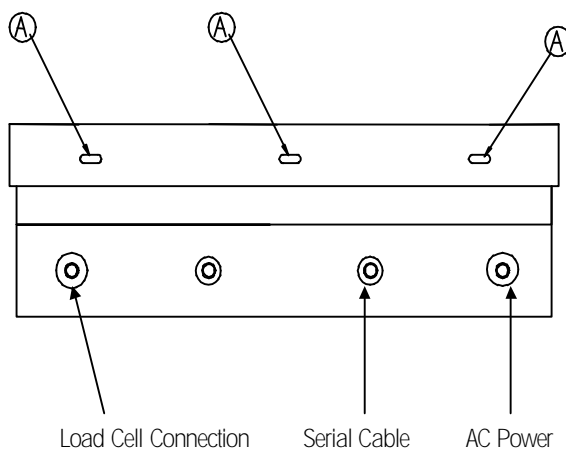

Figure 2-1
- Squeeze the top of the front panel to the enclosure slightly and raise it to clear the two top clips. The cover will swing down hinged by a wire cable at the bottom. Figure 2-1 shows the location of the slots (A).